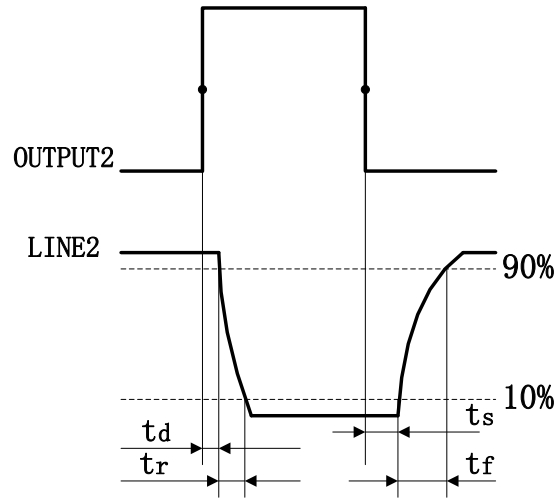

Figure 2-5 Time delay parameter of the circuit when Line2 is configured as output
- Rising time delay = $t_r + t_d$: $< 20\mu s$ ($0^\circ C \sim 45^\circ C$) (parameter description as shown in Figure 2-5).
- Falling time delay = $t_s + t_f$: $< 20\mu s$ ($0^\circ C \sim 45^\circ C$) (parameter description as shown in Figure 2-5).